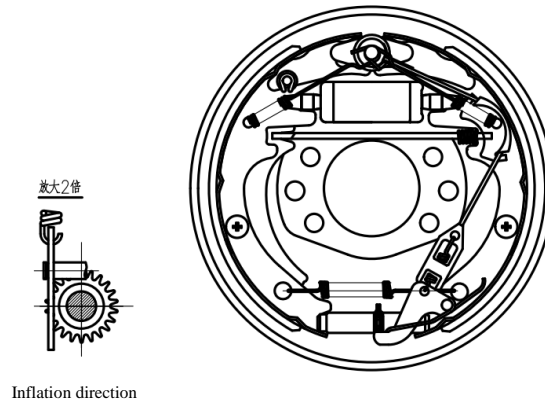

Figure 2-25
2.6.4 Operation test of the automatic clearance regulator as shown in Figure 2-25